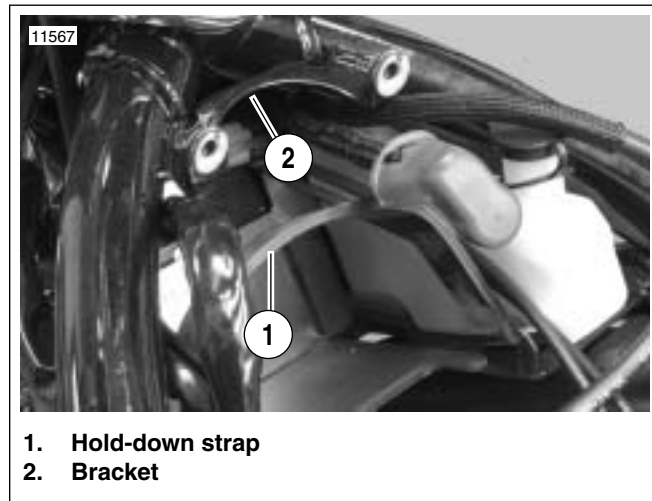

Figure 1-28. Stretch Hold-Down Strap Over Bracket (typical) (VRSCA shown)
1. See Figure 1-28. Stretch rubber hold-down strap (1) over airbox grommet bracket (2).